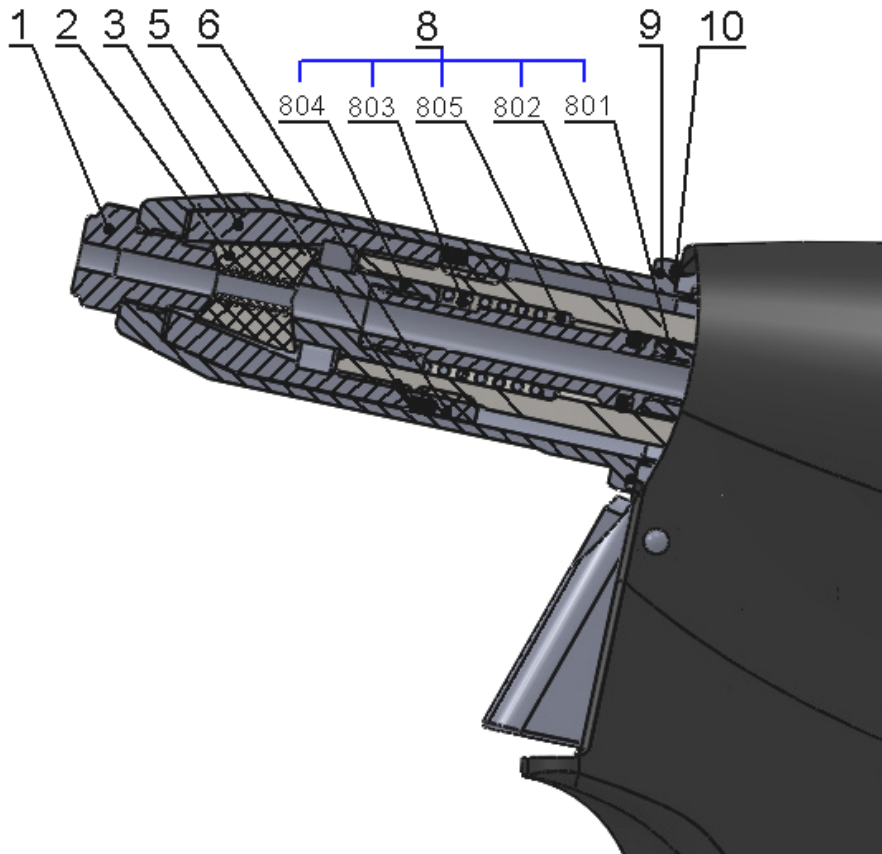
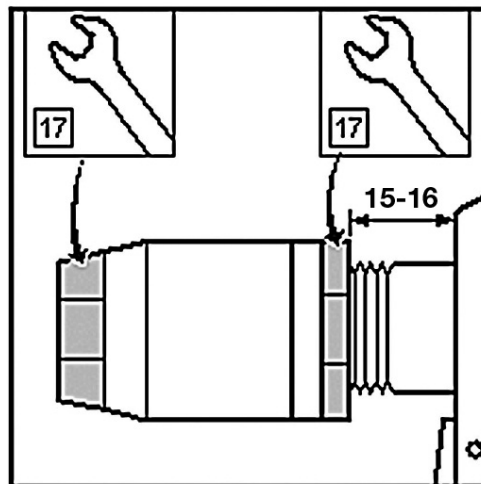

Fig. 2
Fig. 3
Disconnect the tool from the source of compressed air, unscrew the front nozzle /fig.2 - pos.9/ by means of a spanner no.23, set the spanner no.17(15) onto the clamping sleeve /fig.2 - pos.3/, set the spanner no.17 on the
backnut /fig.2 - pos.6/ and loosen. Unscrew the clamping sleeve, replace the jaws /fig.2 - pos.2/ and conduit-suction complet /fig.2 - pos.8/. All used threads are clockwise. Clean the dismantled parts thoroughly and check them visually, especially the following:
- 1) Jaws /fig.2 – pos.2/ - if worn or damaged, replace it, if dirty, clean it with a wire brush.
- 2) Nose-piece /fig.2 – pos.1/ - for wear of functional surfaces of the taper.
- 3) Conduit-suction complet /fig.2 - pos.8/ - inspect parts of the assembly, jaw pusher /fig.2 - pos.804/, spring /fig.2 - pos.803/, washer of spring /fig.2 - pos.805/, O - ring /fig.2 - pos.802/ and conduit-suction /fig.2 - pos.801/ - if damaged or worn, replace it with a new one.
- 4) Front nozzle /fig.2 - pos.9/ - check for damage of the internal surface ($\varnothing 20$).
- 5) Scraper ring /fig.2 - pos.5/ - if damaged or worn, replace it with a new one.
Mount the parts (see par. disassembly) in a reverse order. On the outer surface of the jaws /fig.2 – pos.2/ apply a drop of lubricating oil (we recommend hydraulic oil HYPIN AWHM 32 CASTROL), apply thin layer of plastic lubricant MOGUL LV 2-3 to the conduit-suction complet /fig.2 – pos.8/. Basic set-up of the jaws is performed as in fig. 3.